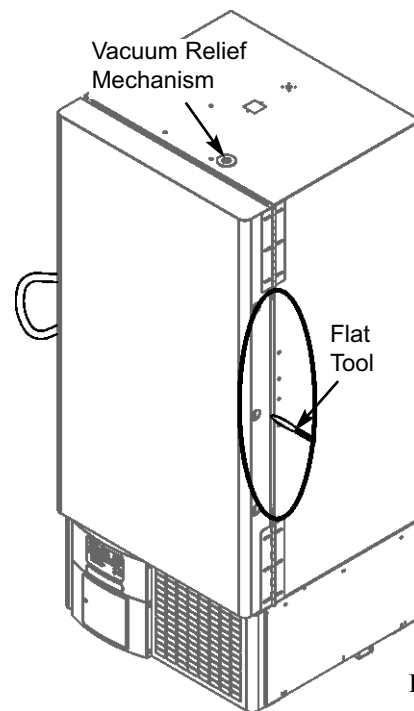
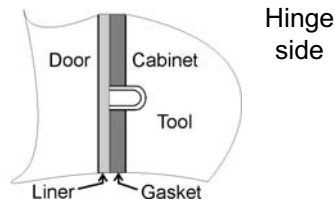

Figure 4-2
Figure 4-3
2. On the HINGED side of freezer (Figure 4-2), slide part number 402058 tool or a non-metallic flat object such as a ruler, tongue depressor or plastic putty knife carefully between the door gasket and door until only the end of the tool handle is showing (Figure 4-3). There will be a noticeable sound of air exchange that could last a few minutes.